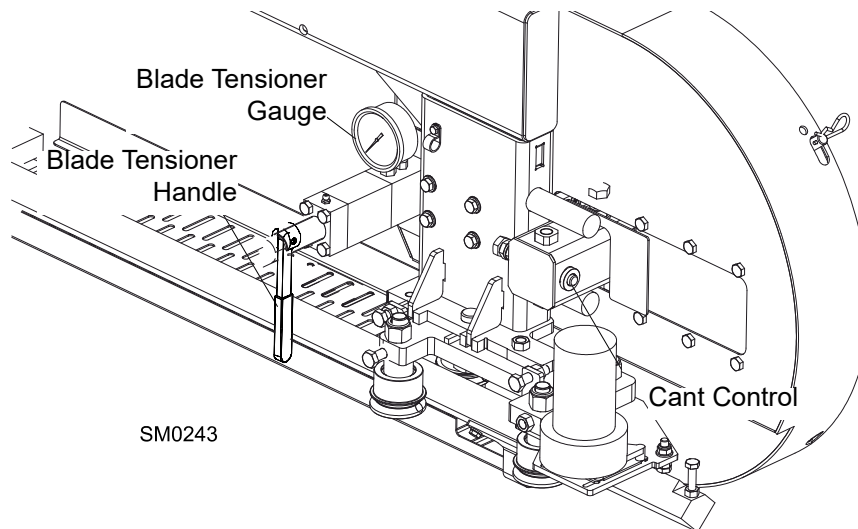

FIG. 2-14
See figure 2-14. Tension the blade by turning the hydraulic tensioning handle clockwise until the tension gauge indicates the recommended tension.
4. To adjust where the blade travels on the blade wheels, use the cant control shown in **Figure 2-14**.